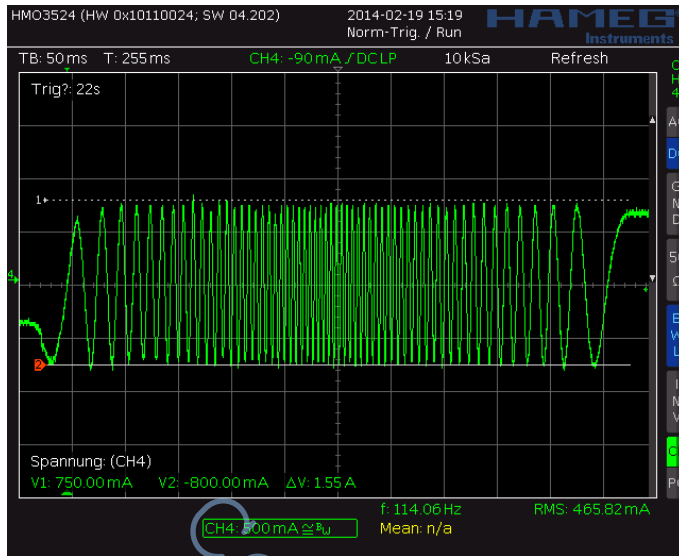
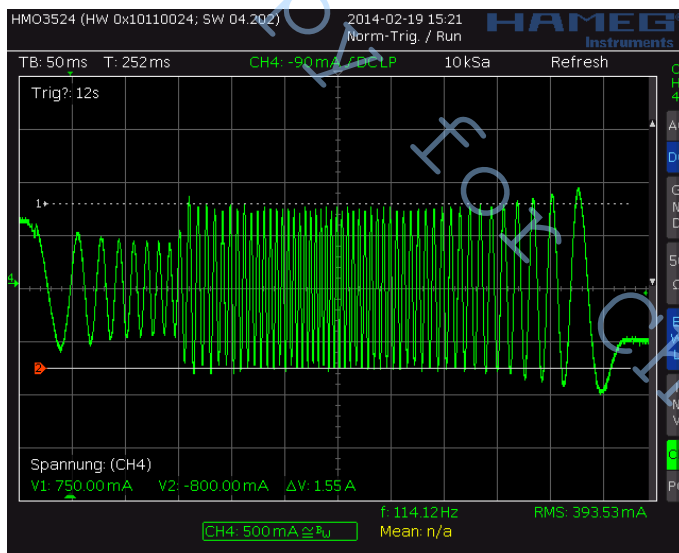
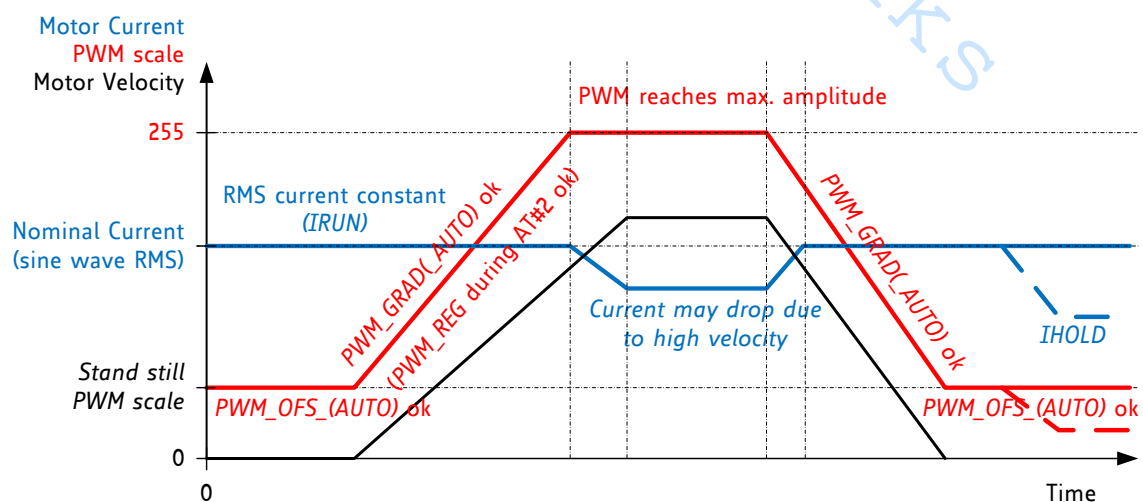

Figure 6.3 Scope shot: good setting for PWM\_REG
Figure 6.4 Scope shot: too small setting for PWM\_REG during AT#2
Figure 6.5 Successfully determined PWM\_GRAD(\_AUTO) and PWM\_OFS(\_AUTO)
In StealthChop voltage PWM mode, the autoscaling function (*pwm\_autoscale* = 1, *pwm\_autograd* = 1) regulates the motor current to the desired current setting. Automatic scaling is used as part of the automatic tuning process (AT), and for subsequent tracking of changes within the motor parameters. The driver measures the motor current during the chopper on time and uses a proportional regulator to regulate *PWM\_SCALE\_AUTO* in order match the motor current to the target current. *PWM\_REG* is the proportionality coefficient for this regulator. Basically, the proportionality coefficient should be as small as possible in order to get a stable and soft regulation behavior, but it must be large enough to allow the driver to quickly react to changes caused by variation of the motor target current (e.g. change of *VREF*). During initial tuning step AT#2, *PWM\_REG* also compensates for the change of motor velocity. Therefore, a high acceleration during AT#2 will require a higher setting of *PWM\_REG*. With careful selection of homing velocity and acceleration, a minimum setting of the regulation gradient often is sufficient (*PWM\_REG*=1). *PWM\_REG* setting should be optimized for the fastest required acceleration and deceleration ramp (compare Figure 6.3 and Figure 6.4). The quality of the setting *PWM\_REG* in phase AT#2 and the finished automatic tuning procedure (or non-automatic settings for *PWM\_OFS* and *PWM\_GRAD*) can be examined when monitoring motor current during an acceleration phase Figure 6.5.